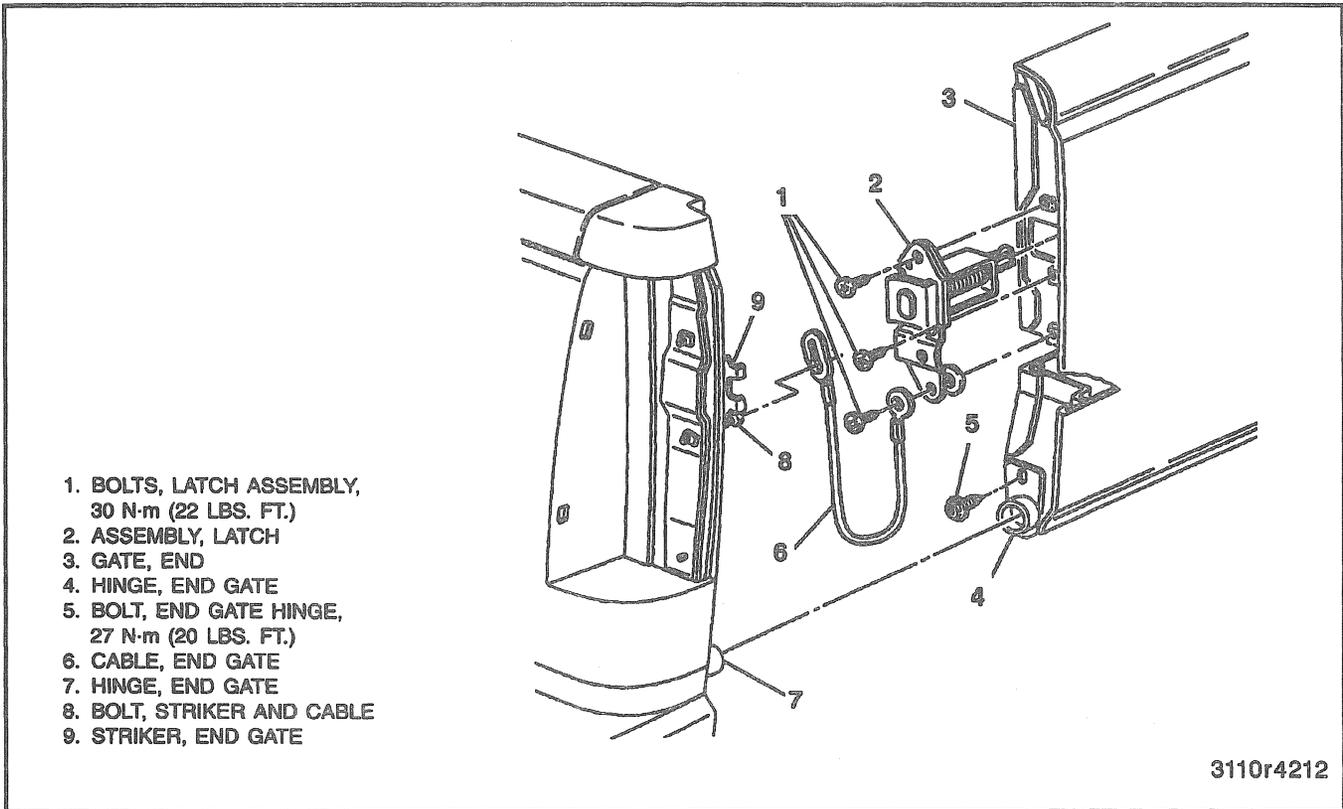

Figure 1—End Cable and Latch Components
Remove or Disconnect (Figures 1 and 2)
1. Cable on each side from the side panel striker bolts (Figure 1).
↔ Install or Connect (Figures 1 and 2)
1. End gate to side panel hinge assemblies holding the gate at a 45 degree angle (Figure 1).
Remove or Disconnect (Figure 1 and 3)
Install or Connect (Figures 1 and 3)
2. Three bolts holding the latch assembly to the end gate (Figure 1).
Remove or Disconnect (Figure 1)
Install or Connect (Figure 1)